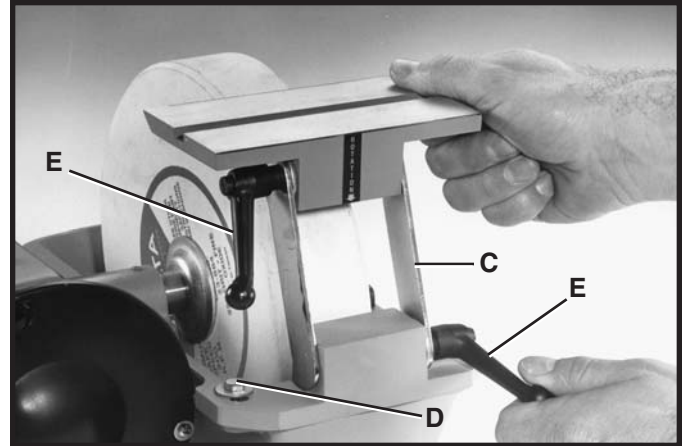
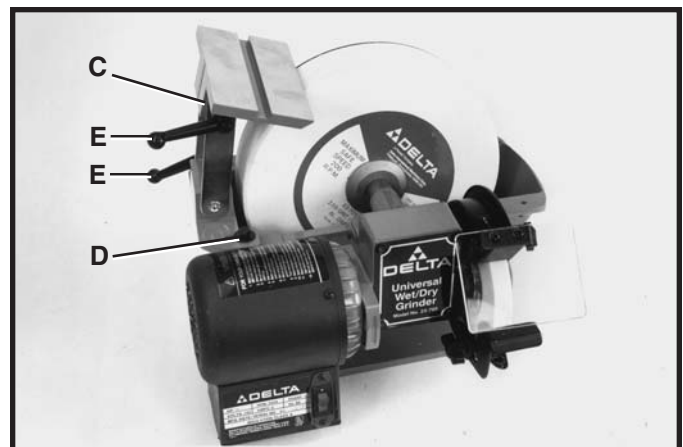

Fig. 7
Fig. 8
3. The tool rest for the 10 grinding wheel can be assembled to the right hand side of the machine as shown in Fig. 7, or can be assembled to the left hand side of the machine as shown in Fig. 8. Assemble the tool rest (C) Figs. 7 and 8 to the machine as desired, using two 1 long hex head screws and flat washers (D), one of which is shown. **NOTE:** When assembling the tool rest on the left side of the machine, the grinding action will be on the upward swing. The tool rest (C) Figs. 7 and 8, is adjustable so it can be positioned close to the grinding wheel and at any angle to the wheel by loosening two locking handles (E), adjusting the tool rest (C), and tightening the two locking handles (E). The locking handles (E) are spring-loaded and can be repositioned by pulling outward on each handle and repositioning it on the serrated nut located underneath the handle.